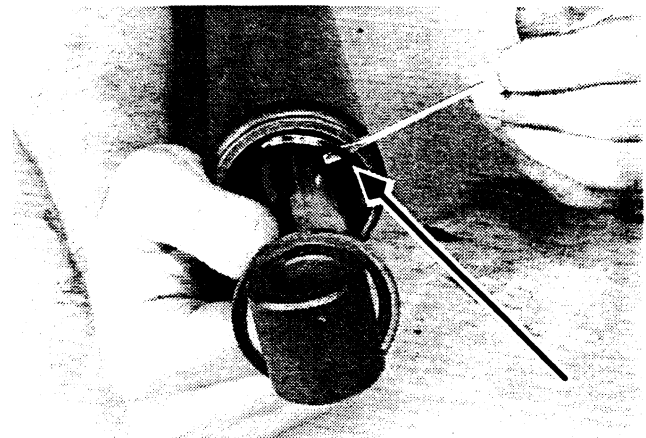

Figure 6-101: Removing Lock Ring From Tube
6. Remove the lock ring from inside the tube. See Figure 6-101.